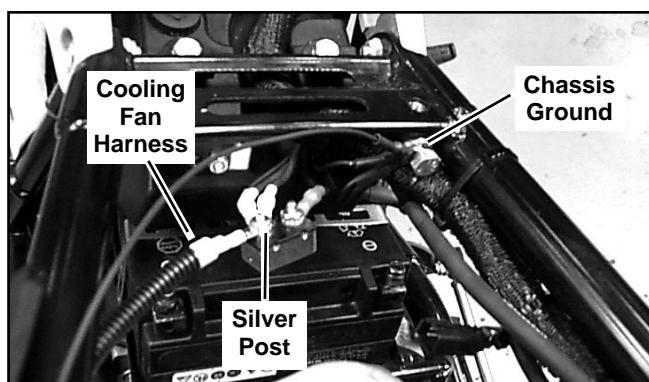

Figure 7. Install Cooling Fan Harness
13. See Figure 7. Remove nut from silver (Axillary) post of main circuit breaker. Place ring terminal (from red wire) of harness (part number Y0051.K) on silver post, then re-install nut.